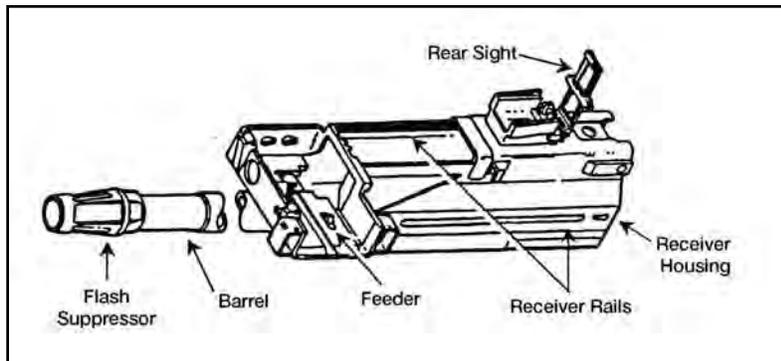

Figure 071-030-0001-15. Receiver assembly
a. Clean the receiver assembly (figure 071-030-0001-15).
- (1) Apply solvent to a rag or brush. Wipe or brush dirt away from all parts, especially the interior of the receiver housing, receiver rails, and feeder.
- (2) Swab out the bore and chamber, using a bore brush and RBC.
- (3) Wipe all parts dry.
- b. Clean the receiver sear assembly (figure 071-030-0001-14).
- (1) Use only cleaning solvent on a rag or brush.
- (2) Wipe or brush away dirt.
- (3) Wipe dry.